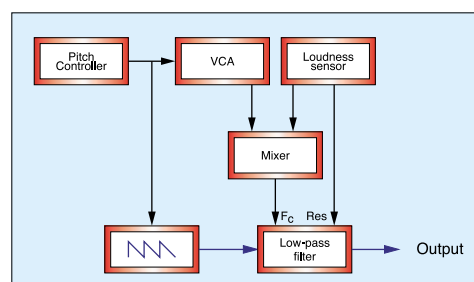

Figure 7: How the loudness can control the harmonic characteristics.
Now let's consider the brightness of the sound. Last month, I looked at the steady-state spectrum of the waveform as produced at different pitches, but let's quickly recap. You should recall that louder notes have more harmonics than quieter ones. Figure 7 shows how we can achieve this using the pitch CV and a loudness sensor to affect the cutoff frequency of a low-pass filter. Furthermore, you know that the loudest
► harmonic need not be the fundamental (as in overblown notes). Again, Figure 7 provides a solution: by making the resonance proportional to the loudness, you ensure that high harmonics are accentuated to a greater and greater degree as we play louder and louder. But neither last month's analysis nor Figure 7 tells you what happens at the start of the note...